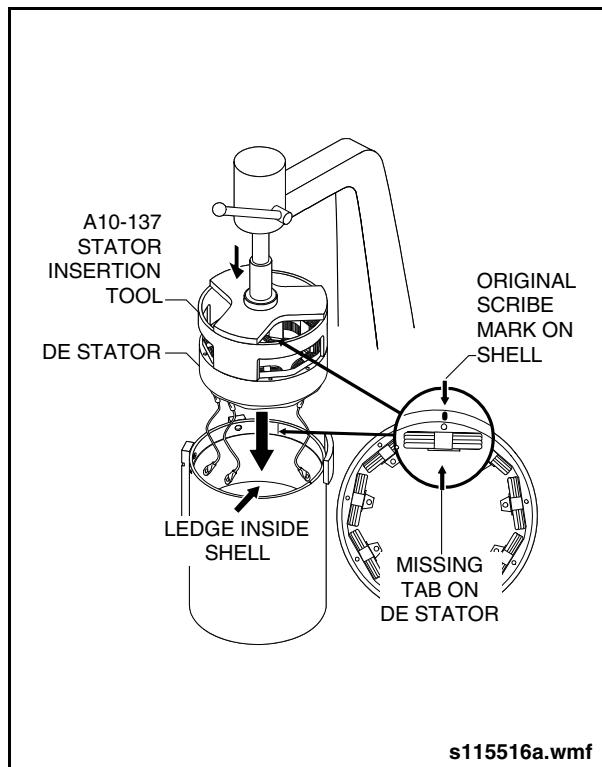

Fig. 9-24: DE Stator Installation
1. Install the drive end (DE) stator as follows:
- a. Position the shell on the press support fixture so that the drive end of the shell is facing up. See "Fig. 9-24: DE Stator Installation" on page 32.